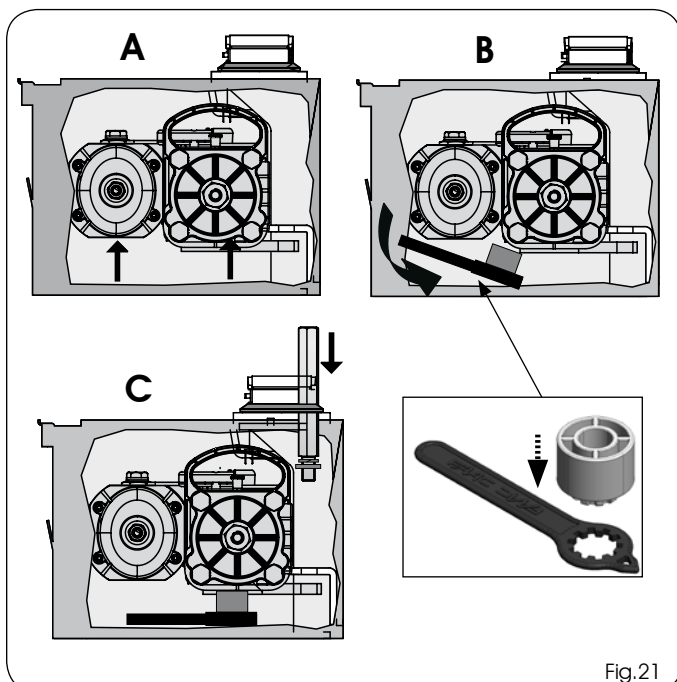

Fig.21
- 13) Raise the operator with its handles (Fig.21 ref. A), inserting the pinion in the grooved bush in the bearing case. To make the operation easier, slightly rotate the operator until coupling takes place.
- 14) Place the supplied key under the operator, as shown in figure 21, in order to support the motor.
- 15) Insert and screw the fastening screws with groover and washer as shown in Fig. 21 C, in order to secure the operator to the bearing case.